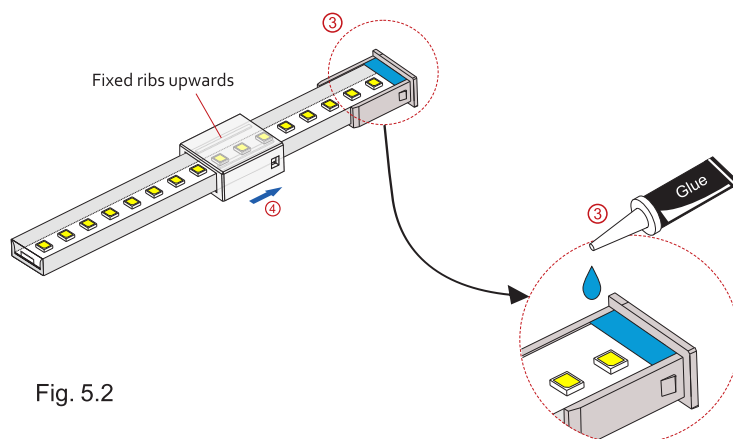

Fig. 5.2
- Fig. 5.2 — Inserting the adhesive silicon glue, and make IP65 Waterproof.